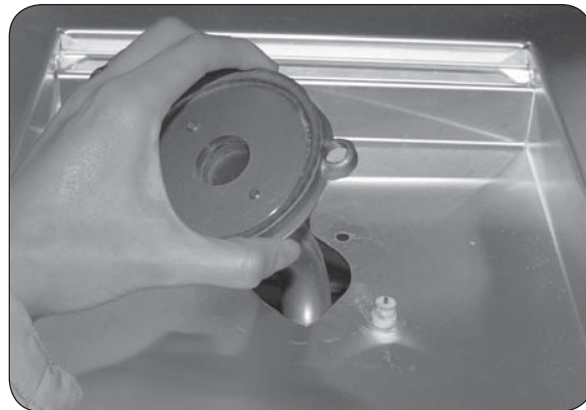
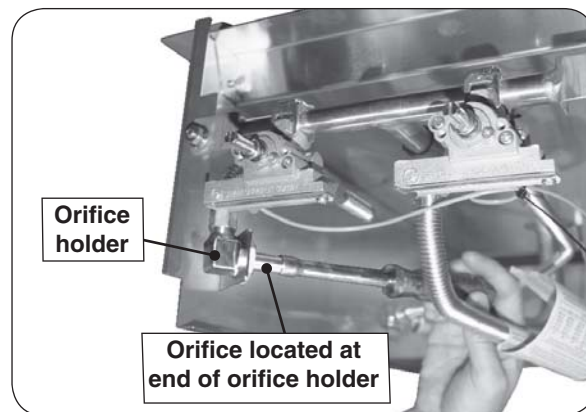

Fig. 15-1 Remove burner
Fig. 15-2 Orifice location
4. Remove the burner cap and carefully lift the burner up and out, clearing the ceramic electrode (see Fig. 15-1), and pulling the burner tube away from the orifice, located on the end of the orifice holder on the left side of the unit (see Fig. 15-2).
5. Using a $\frac{3}{8}$ " socket, remove orifice from the orifice holder (see Fig. 15-2) and check the number stamped on the orifice face.